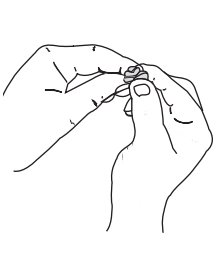

Fig. 24
- Squeeze the filter to spread and remove excess oil (Fig. 24).